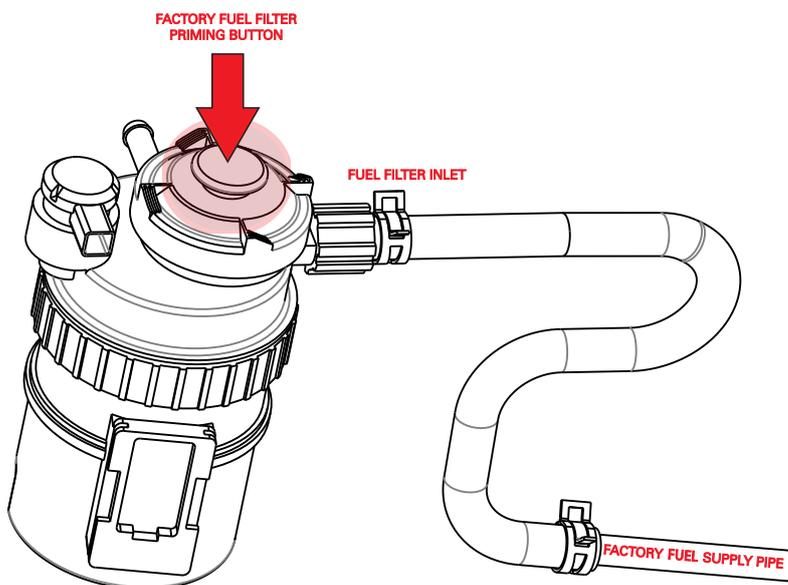

FIG. 5 FACTORY HOSE IDENTIFICATION
1. Locate the factory fuel supply line by starting at the fuel inlet port of the factory fuel filter. Loosen the factory fuel hose clamp and disconnect the fuel supply line from the factory filter, as per Fig. 5. Have a rag ready to capture any diesel that may spill out of the fuel line and the fuel filter.
2. Trace the other end of the fuel supply line and disconnect it from the metal factory fuel supply pipe, as per Fig. 5. Remove the factory fuel supply line from the vehicle and store for safe keeping. Have a rag ready to capture any diesel that may spill out of the fuel lines.
3. Mount the Z980SK assembly onto the RVSK100 metal bracket using the two (2) black M10 bolts supplied with the Z980SK.